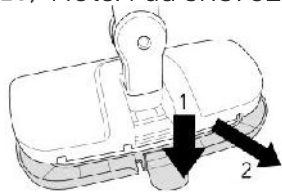

Fig. 10
3. The floor head is supplied with one microfibre cleaning pad and the carpet ring already fitted. If using on a hard floor remove the carpet glider (see page 22, fig 10).
12. If the cleaning pad becomes very wet or dirty, switch off the steam mop, allow the mop head to cool fully and replace the pad with a clean one. See page 22, figs 10- 12).
2. To remove and replace the microfibre pad, remove the carpet glider. Press down on the carpet glider clip, and lift the floor head upwards (fig 10). Note: Pad SKU: 3295458